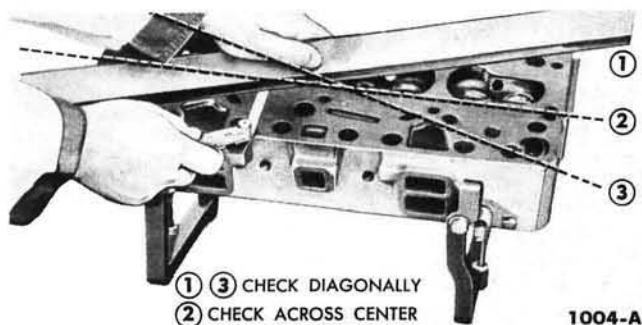

FIG. 4—Cylinder Head Flatness—Typical
**Cylinder Head Flatness.** Check the flatness of the cylinder head gasket surface (Fig. 4). Specifications for flatness are 0.006 inch maximum over all, or 0.003 inch in any 6 inches.